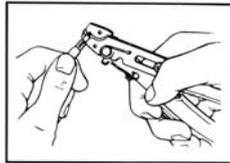

Figure 16
E. Remove dielectric at the mark with a simple wire stripping plier (Fig. 16).